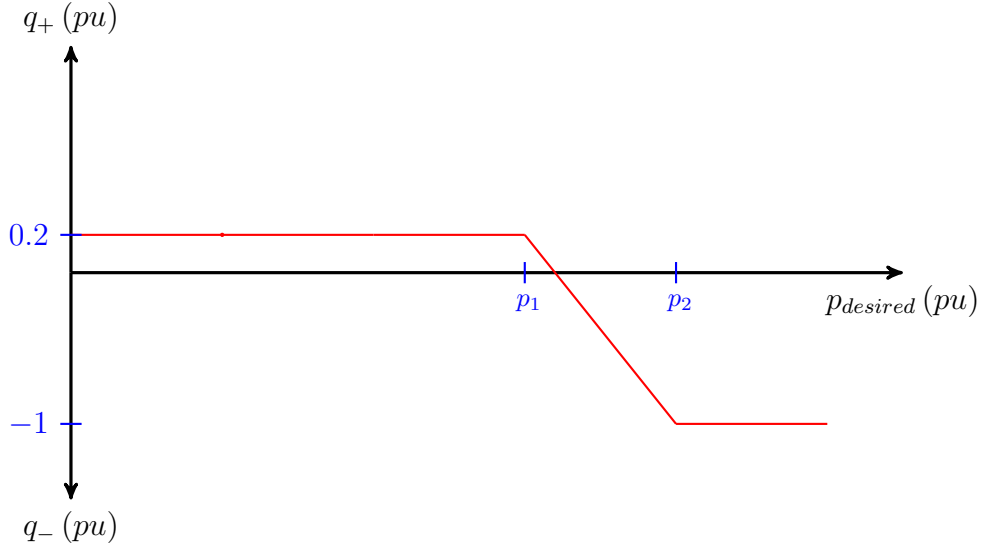

Figure 13: watt-var curve
**Smart inverter watt-var function** For the smart inverter watt-var function, the output active power in  $pu$  is applied,  $p_{desired}[t]$ , in the watt-var curve defined in the *wattvar\_curve* property to obtain the desired reactive power value in  $pu$ ,  $q_{Dfun}[t]_j$ , according to Equation 61. The Figure 13 shows an example of an user-defined watt-var curve.